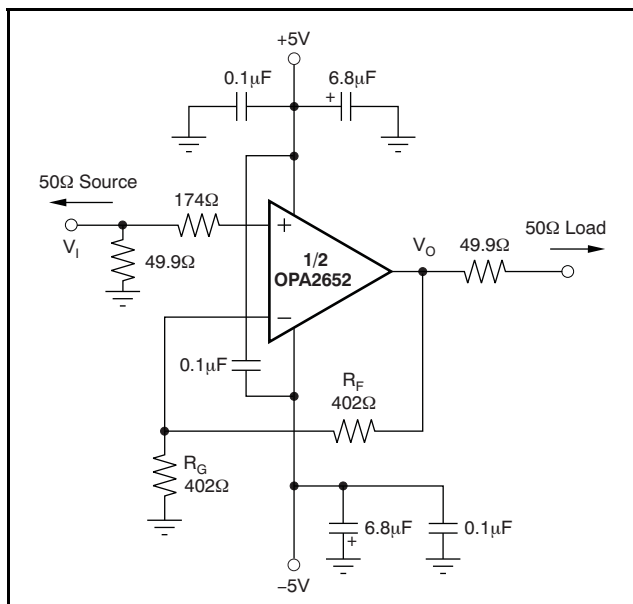
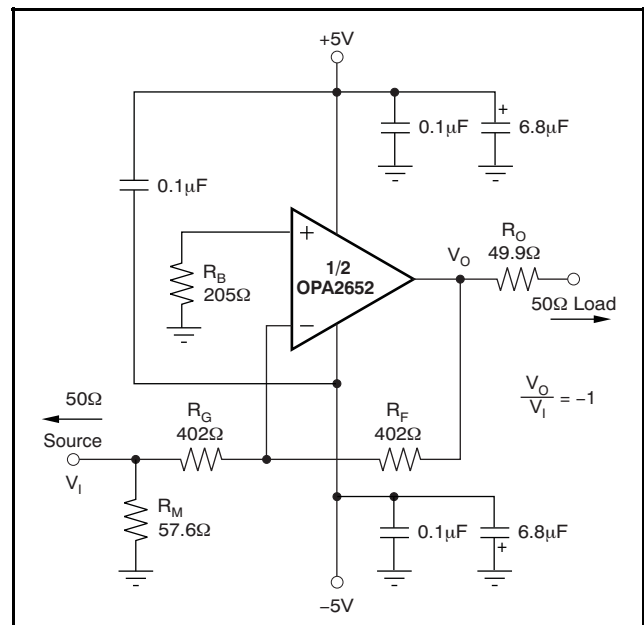

Figure 28. DC-Coupled, $G = +2$, Bipolar Supply, Specification and Test Circuit
Figure 29. DC-Coupled, $G = -1$, Bipolar Supply, Specification and Test Circuit
At $T_A = +25^\circ C$, $G = +2$, $R_F = 402\Omega$, and $R_L = 100\Omega$, unless otherwise noted. See Figure 28 and Figure 29 for AC performance only.
At $T_A = +25^\circ C$, $G = +2$, $R_F = 402\Omega$, and $R_L = 100\Omega$, unless otherwise noted. See Figure 28 and Figure 29.
Figure 28 shows the DC-coupled, gain of +2, dual power-supply circuit configuration used as the basis of the $\pm 5\text{V}$ specifications and typical characteristics. This configuration is for one channel. The other channel is connected similarly. For test purposes, the input impedance is set to 50Ω with a resistor to ground and the output impedance is set to 50Ω with a series output resistor.
Voltage swings reported in the specifications are taken directly at the input and output pins, while output powers (dBm) are at the matched 50Ω load. For the circuit of Figure 28, the total effective load will be $100\Omega \parallel 804\Omega$. Two optional components are included in Figure 28.
Figure 29 shows the DC-coupled, gain of -1 , bipolar supply circuit configuration that is the basis of the specifications and typical characteristics at $G = -1$. The input impedance matching resistor (57.6Ω) used for testing gives a 50Ω input load. A resistor (205Ω) connects the noninverting input to ground. This configuration provides the DC source resistance matching to cancel outputs errors arising from input bias current.
A good rule of thumb is to target the parallel combination of R_F and R_G (see Figure 28) to be less than approximately 300Ω. The combined impedance $R_F \parallel R_G$ interacts with the inverting input capacitance, placing an additional pole in the feedback network, and thus a zero in the forward response. Assuming a 2pF total parasitic on the inverting node, holding $R_F \parallel R_G < 300\Omega$ keeps this pole above 250MHz. By itself, this constraint implies that the feedback resistor R_F can increase to several kΩ at high gains. This increase is acceptable as long as the pole formed by R_F and any parasitic capacitance appearing in parallel is kept out of the frequency range of interest.
Voltage feedback op amps exhibit decreasing closed-loop bandwidth as the signal gain is increased. In theory, this relationship is described by the Gain Bandwidth Product (GBP) shown in the specifications. Ideally, dividing GBP by the noninverting signal gain (also called the Noise Gain, or NG) predicts the closed-loop bandwidth. In practice, this prediction only holds true when the phase margin approaches 90°, as it does in high gain configurations. At low gains (increased feedback factor), most amplifiers exhibit a wider bandwidth and lower phase margin. The OPA2652 is compensated to give a flat response in a noninverting gain of 1 (see Figure 28). This configuration results in a typical gain of +1 bandwidth of 700MHz, far exceeding that predicted by dividing the 200MHz GBP by $NG = 1$. Increasing the gain
Because the OPA2652 is a general-purpose, wideband voltage feedback op amp, all of the familiar op amp application circuits are available to the designer. Inverting operation is one of the more common requirements and offers several performance benefits. Figure 29 shows a typical inverting configuration.
In the inverting configuration, three key design considerations must be noted. First, the gain resistor (R_G) becomes part of the signal channel input impedance. If input impedance matching is desired (which is beneficial whenever the signal is coupled through a cable, twisted pair, long PCB trace or other transmission line conductor), R_G may be set equal to the required termination value and R_F adjusted to give the desired gain. This approach is the simplest, and results in optimum bandwidth and noise performance. However, at low inverting gains, the resulting feedback resistor value can present a significant load to the amplifier output. For an inverting gain of -1 , setting R_G to 50Ω for input matching eliminates the need for R_M but requires a 50Ω feedback resistor. This configuration has the interesting advantage that the noise gain becomes equal to 2 for a 50Ω source impedance—the same as the noninverting circuits considered above. However, the amplifier output now sees the 50Ω feedback resistor in parallel with the external load. In general, the feedback resistor should be limited to the 200Ω to 1.5kΩ range. In this case, it is preferable to increase both the R_F and R_G values as shown in Figure 29, and then achieve the input matching impedance with a third resistor (R_M) to ground. The total input impedance becomes the parallel combination of R_G and R_M .
The second major consideration, touched on in the previous paragraph, is that the signal source impedance becomes part of the noise gain equation and influences the bandwidth. For the example in Figure 29, the R_M value combines in parallel with the external 50Ω source impedance, yielding an effective driving impedance of $50\Omega \parallel 57.6\Omega = 26.8\Omega$. This impedance is added in series with R_G for calculating the noise gain (NG). The resulting NG is 1.94 for Figure 29 (an ideal source would cause $NG = 2.00$).
error, as a result of the input bias currents, is reduced to (Input Offset Current) \bullet R_F . If the 50 Ω source impedance is DC-coupled in Figure 29, the total resistance to ground on the inverting input will be 429 Ω . Combining this in parallel with the feedback resistor gives 208 Ω , which is close to the $R_B = 205\Omega$ used in Figure 29. To reduce the additional high-frequency noise introduced by this resistor, it is sometimes bypassed with a capacitor. As long as $R_B < 300\Omega$, the capacitor is not required since its total noise contribution is much less than that of the op amp input noise voltage.
The OPA2652 provides good distortion performance into a 100 Ω load on $\pm 5V$ supplies. Increasing the load impedance improves distortion directly. Remember that the total load includes the feedback network; in the noninverting configuration (Figure 28), this is sum of $R_F + R_G$, while in the inverting configuration, it is only R_F . Also, providing an additional supply decoupling capacitor (0.1 μF) between the supply pins (for bipolar operation) improves the 2nd-order distortion slightly (3dB to 6dB).
Evaluating these two equations for the OPA2652 circuit and component values shown in Figure 28 gives a total output spot noise voltage of $17\text{nV}/\sqrt{\text{Hz}}$ and a total equivalent input spot noise voltage of $8.4\text{nV}/\sqrt{\text{Hz}}$. This noise includes the noise added by the bias current cancellation resistor (205Ω) on the noninverting input. This total input-referred spot noise voltage is only slightly higher than the $8\text{nV}/\sqrt{\text{Hz}}$ specification for the op amp voltage noise alone. This result will be the case as long as the impedances appearing at each op amp input are limited to the previously recommend maximum value of 300Ω . Keeping both $(R_F \parallel R_G)$ and the noninverting input source impedance less than 300Ω satisfies both noise and frequency response flatness considerations. Since the resistor-induced noise is relatively negligible, additional capacitive decoupling across the bias current cancellation resistor (R_B) for the inverting op amp configuration of Figure 29 is not required.
The balanced input stage of a wideband voltage feedback op amp allows good output DC accuracy in a wide variety of applications. Although the high-speed input stage does require relatively high input bias current (typically $4\mu\text{A}$ out of each input terminal), the close matching between them may be used to significantly reduce the output DC error caused by this current. This reduction is done by matching the DC source resistances appearing at the two inputs. This matching reduces the output DC error resulting from the input bias currents to the offset current times the feedback resistor. Evaluating the configuration of Figure 28, using worst-case $+25^\circ\text{C}$ input offset voltage and current specifications, gives a worst-case output offset voltage equal to:
As an example, compute the maximum T_J using an OPA2652E (SOT23-8 package) in the circuit of Figure 28 operating at the maximum specified ambient temperature of +85°C and with both outputs driving 2.5V_{DC} into a grounded 100Ω load.